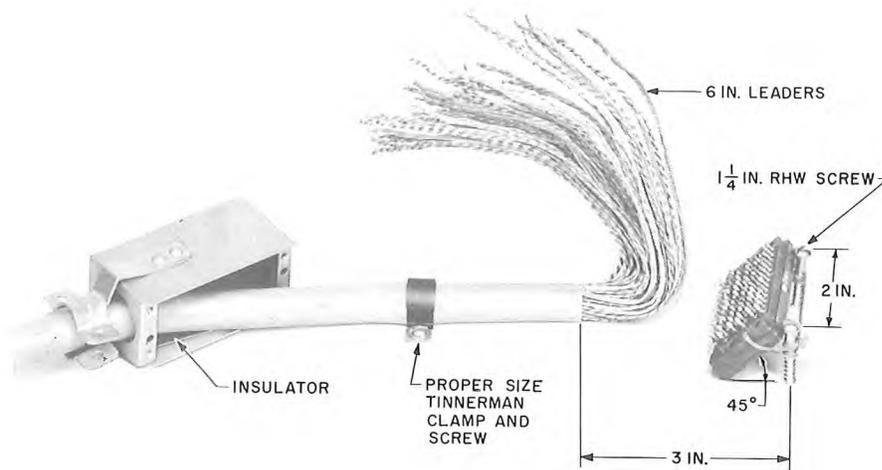

Fig. 47 — Preparation of Cable and Miniature Connector for Terminating
- Remount the miniature connector on the board and secure cable as shown in Fig. 47.